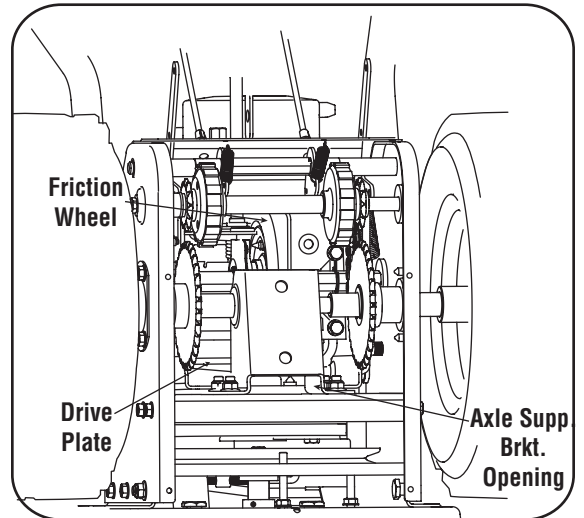

Figure 5-3
3. With the wheel drive control released, check if there is clearance between friction wheel and drive plate in all positions of the shift lever. See Figure 5-3.
4. With the drive control lever engaged, check if the friction wheel solidly contacts the drive plate. See Figure 5-3. If not, adjust as follows: